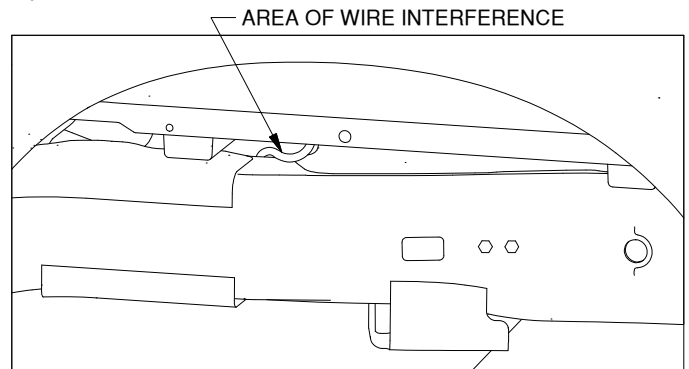

Figure D1: View looking into the driver side wheel well.
- 1. Move wiring for handle install.** The handle may come into contact with part of the wiring harness running over the driver side of the frame, see Figure D1. Move the wire from this area of the frame by pulling the wiring down beside the frame in the inside of the truck. In some cases, fasteners may be present that will need to be pulled out of the frame. A wire tie may need to be used to keep the wire down out of the way of the handle. When correctly installed, no moving part of the handle should rub on any wires in your truck.